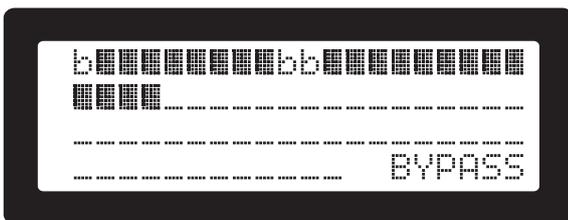

Figure 35. Bypassed zones overview screen
- Pressing **[BYP]** again: The zones overview screen (Figure 35) is displayed. Each zone is represented as one character. Bypassed zones appear as: